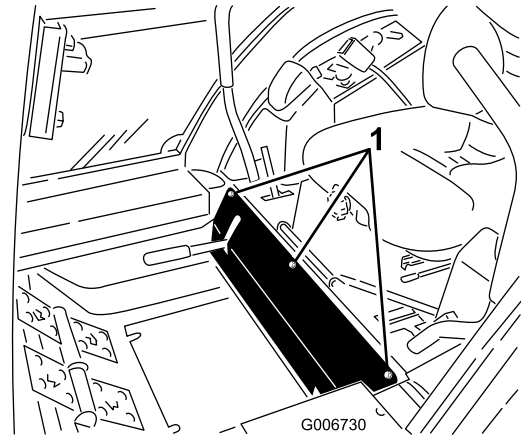

Figure 69
2. Remove the bolts securing the front panel and remove the panel (Figure 69).